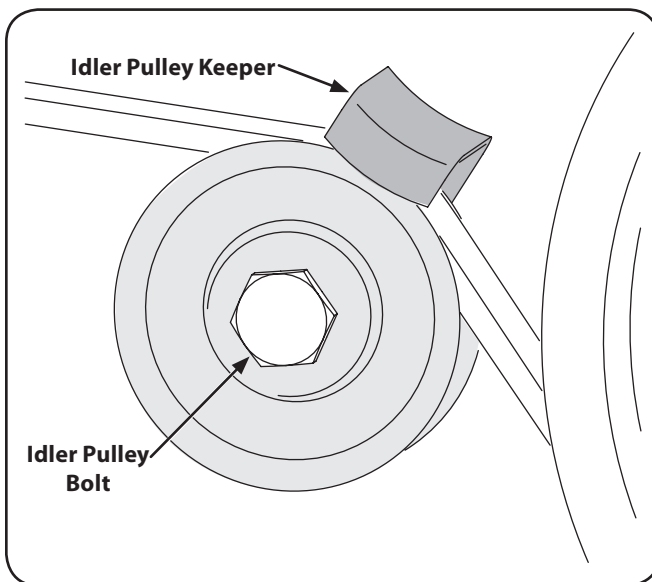

Figure 7-2
3. Remove the idler pulley bolt and move the belt from under the idler pulley keeper. See Fig. 7-2.